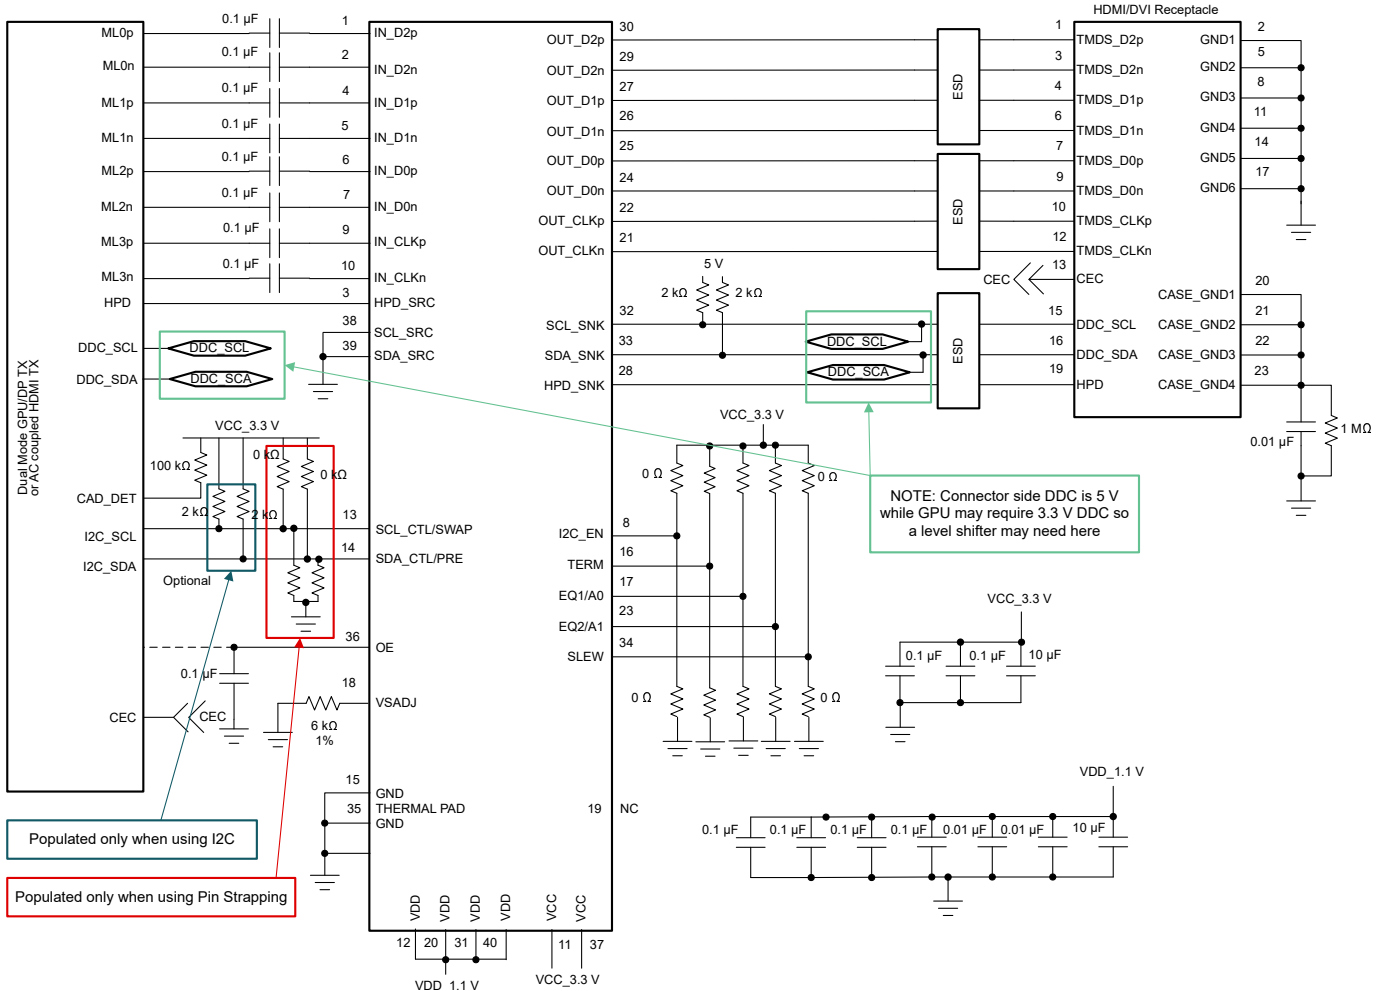

Figure 9-1. TDP158 in Source Side Application
Figure 9-1 provides a schematic representation of what is considered a standard implementation.
- Use the typical application Figure 9-1 for information on control pin resistors.
- See schematics in Figure 9-1 on recommended decouple caps from V_{CC} pins to ground.